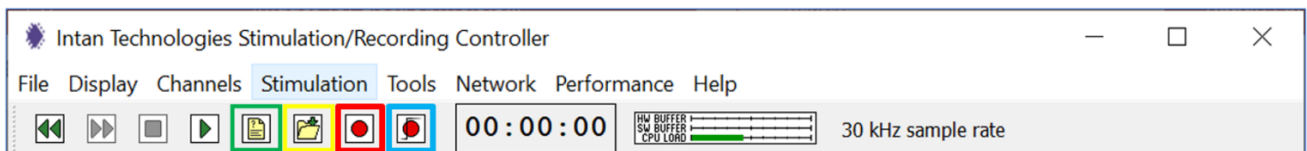

Fig. 54: GUI top toolbar after selecting the file format and setting the base filename.
- 2) Before **recording data you want to save**, click the “Choose File Format” icon (; green box in **Fig. 54**). The following window will appear.
- 4) Click the "Select Filename" icon (; yellow box in **Fig. 54**) to specify the folder where the data file will be saved to and its filename. After setting the file name, click "Save." The "Record" icon (; red box) and "Trigger" icon (; blue box) buttons will no longer be grayed out and can be selected by the user.